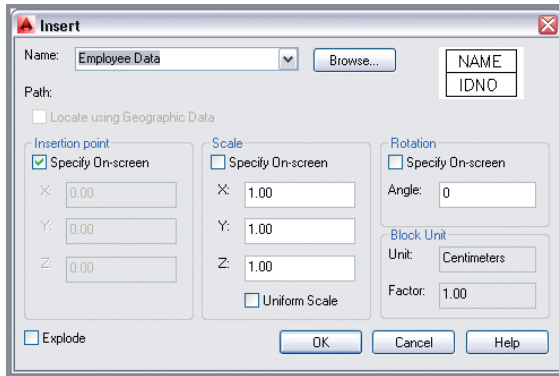

FIGURE 15.12 Inserting the Employee Data block you defined in the previous section
3. Click the Insert tool in the Block panel. Open the Name drop-down menu, and select Employee Data. Verify that Specify On-Screen is selected in the Insertion Point area (see Figure 15.12).